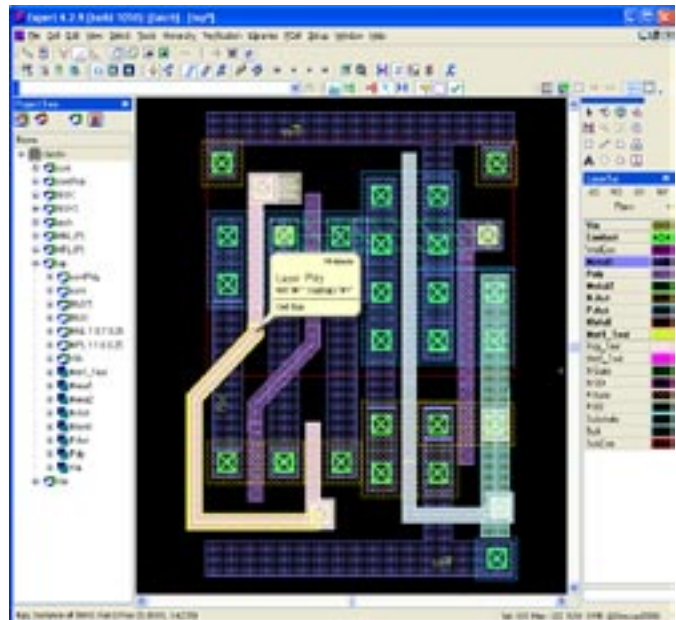

Figure 10. After having rectified unfinished and shorted connections.
- Continue to clear unfinished nets and shorted nets, if any. The layout view after having rectified above-mentioned unfinished and shorted connections is shown in Figure 10.